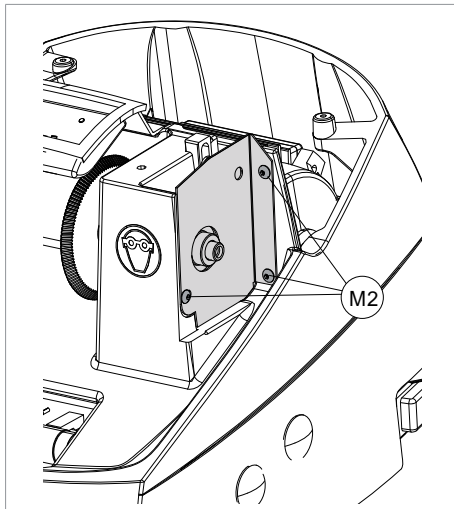

Fig. 51
- 4) Remove the 3 screw (M2) to remove the protective cover (Fig. 51).